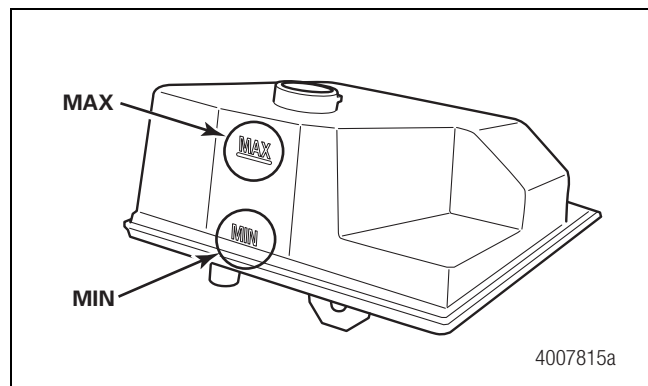

Figure 4
**NOTE:** Take care to ensure the fluid is at the correct level to avoid over-filling the system and to avoid soaking the cap’s filter mesh in brake fluid when the system depletes. According to the filling procedure, the fluid level should be at the “Max” line when the accumulators are depleted. With the system fully charged, the fluid level should be 0.98-inch (25 mm) below the MAX line. Refer to technical bulletin TP-09121 for additional information. Figure 4.